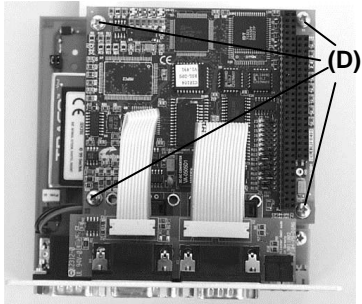

Fig. 2.5.4
- Please, remove the 4 screws as per Figure 2.5.4.